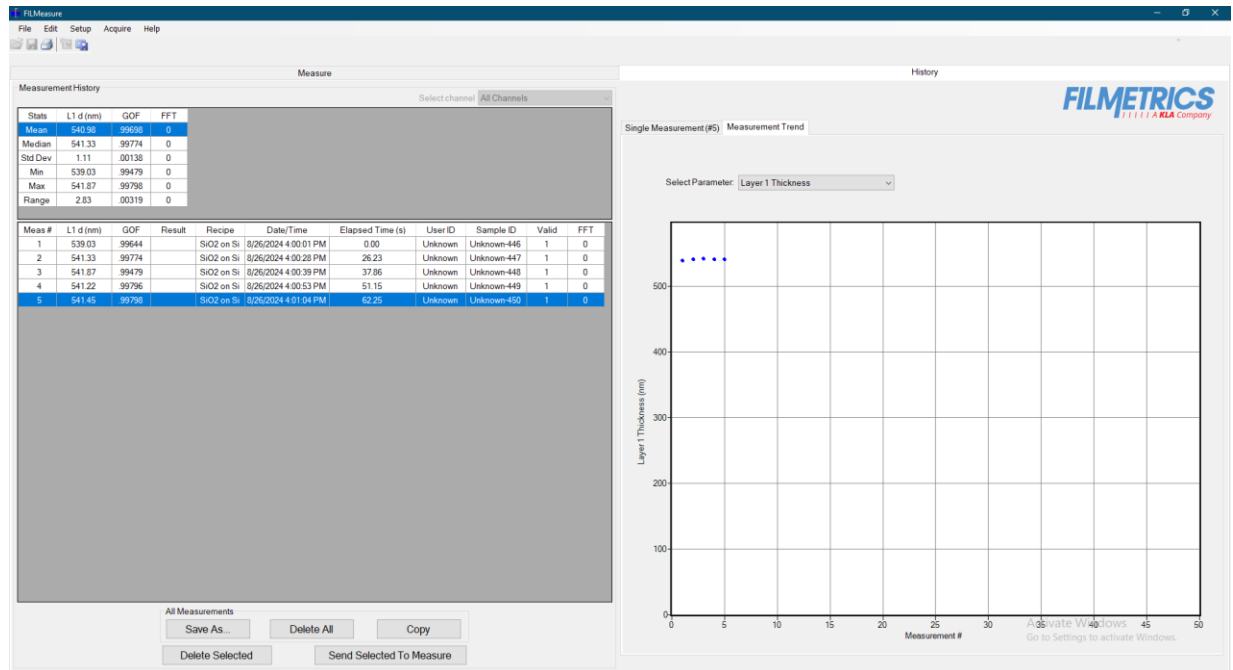

Figure 14. Measurement History View of FILMeasure Software
24. Measurement statistics, including Mean, Median, Std. Dev., Min, Max, and Range, can be seen in the left column. For example, Figure 14 shows these values for five different measurements. The graph on the right displays Thickness (nm) vs. Measurement number for the example measurement.